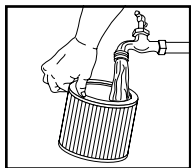

FIGURE 20
27. Or rinse (from the inside of the filter) with water. **FIGURE 20.** Dry completely (approximately 24 hours).